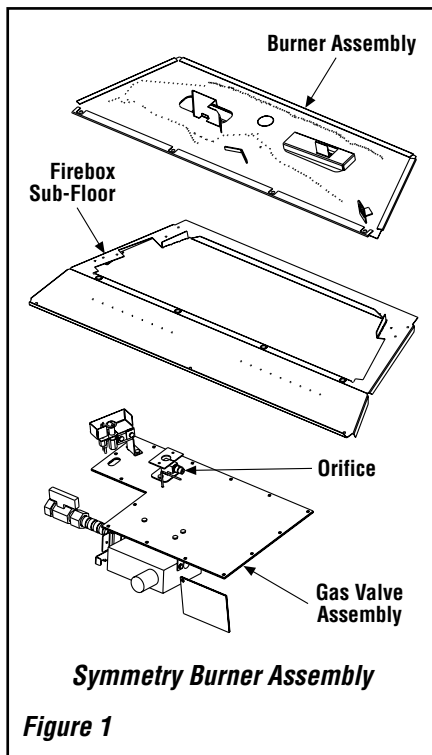

Figure 1
Step 3. See *Figures 1 and 2*. Remove the burner assembly with attached venturi tube.
Step 13. (Refer to **Figures 1 and 2**) Remove the orifice from the manifold and replace it with the one provided in the kit. See the following Orifice Tables for orifice sizes for natural and propane models. **Figure 7** illustrates the orifice.